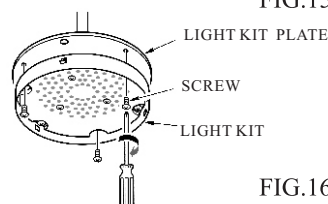

FIG. 16
5. Tighten the light kit by using the 3 screws removed in step 3 (see Fig. 16)